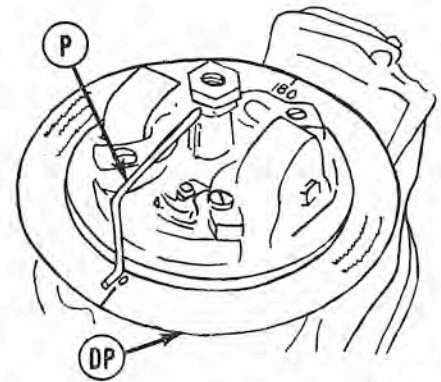
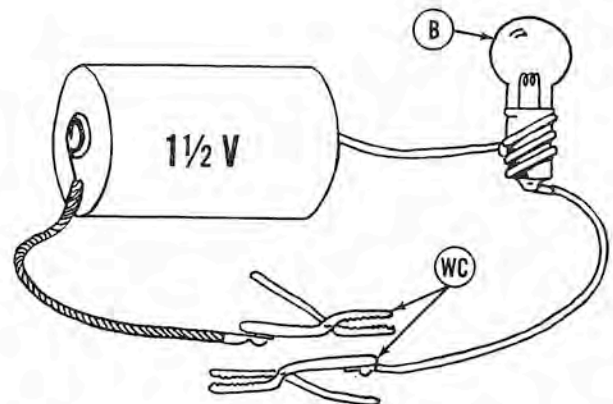

Fig. M31—Synchronizing tool installed for adjusting the magneto points. Refer to text for details.
Fig. M32—A timing test light can be constructed as shown, using a flashlight battery, bulb (B), two wire clips (WC) and short pieces of wire.
Fig. M31 (or equivalent), plus a timing test light such as that shown in Fig. M32. To adjust the timing, remove the flywheel and install the degree plate (DP—Fig. M31) and pointer (P). Set the contact points for top cylinder at 0.018. Remove the spark plugs and install the test light by attaching one clip to insulated point connection and the other clip to a suitable ground. Turn the crankshaft clockwise slowly until the points just open as indicated by the test light bulb going out. Turn the degree plate until the 0° timing mark is aligned with pointer as shown. Attach the test light to the other set of points and turn the crankshaft ½-turn until the timing pointer is aligned with the 180° timing mark on degree plate; then adjust the second set of points to barely open. Recheck both sets of points with the degree plate and timing light. If the synchronizing tools are not available, renew the points or